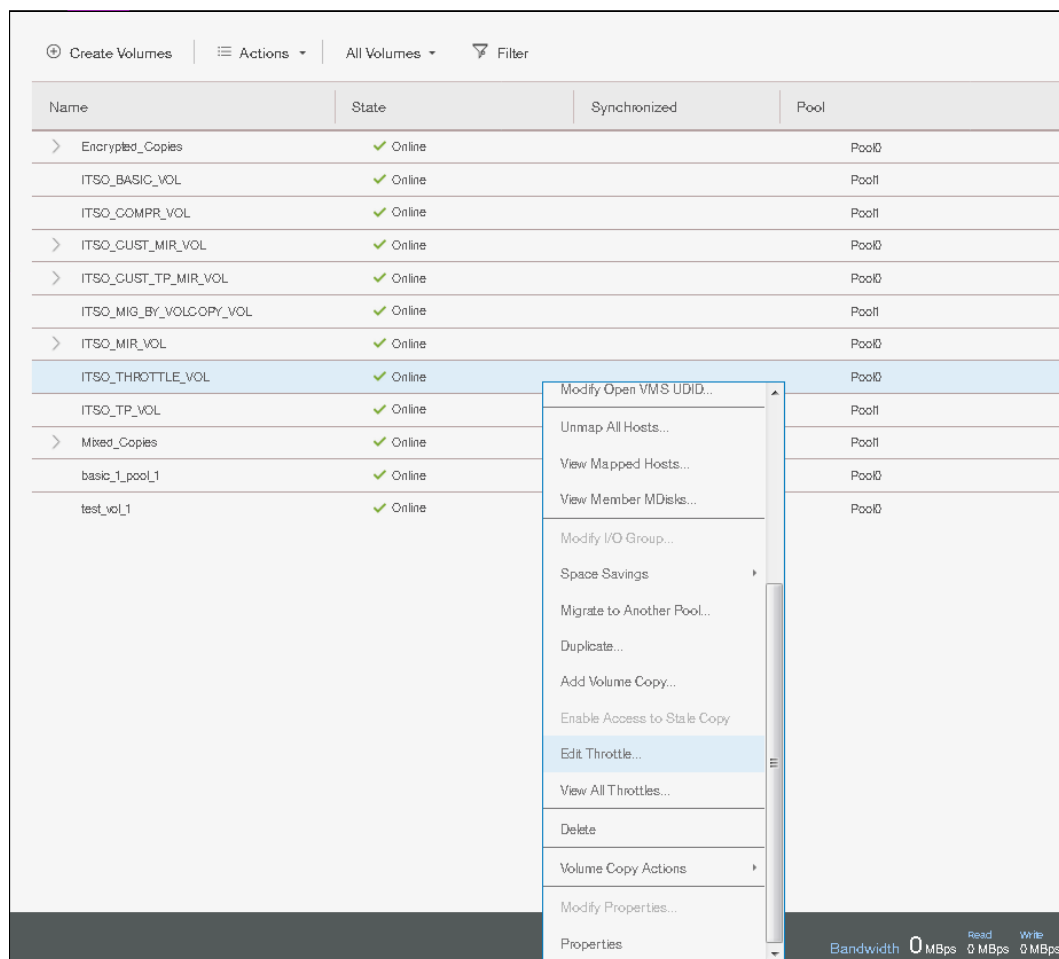

Figure 6-65 Edit Throttle
1. From the Volumes window, select the desired volume to throttle as shown in Figure 6-65 on page 319.